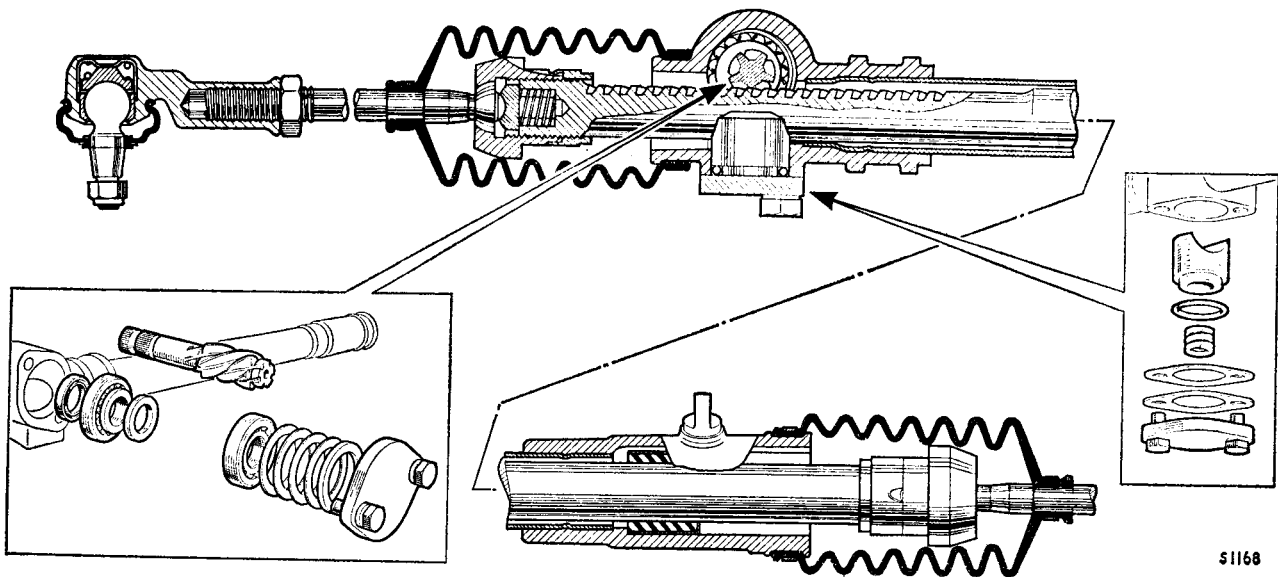

Fig. J.3
29. PINION ADJUSTMENT (MK. II MODELS). Refit the pinion and bearings as shown in Fig. J.3. Add sufficient shims together with the spacer washer to provide a clearance of approximately .010 in. (.25 mm.) between the rack housing and the cover plate. Fit and lightly tighten the cover plate. Take a feeler gauge measurement of the clearance (A) and reduce the shimming by the measurement taken, less .002 to .005 in. (.05 to .13 mm.), to give the required pre-load.